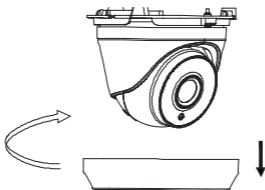

Figure 2-2 Remove the trim ring
2. Disassemble the turret camera by rotating the camera to remove the trim ring, as shown in Figure 2-2.